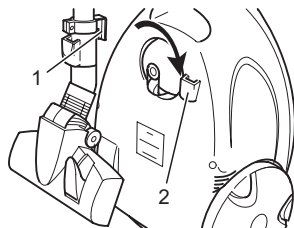

Fig.15
■ When **putting away** the vacuum cleaner, you can also use the stow-away hook mount (Fig. 15/2) on the underside of the cylinder vacuum cleaner. This is where you can hook the stow-away hook (Fig. 15/1) onto the telescopic tube (Fig. 15).